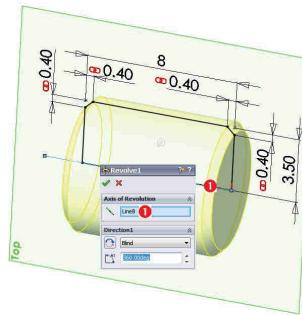

Fig. 2.47
Comanda **Sketch** – Fig. 2.47 – plan **Top**.
comanda **Revolved Boss/Base** ① - Fig. 2.47 - ② selectie axă de revoluție ① / **Blind** / ③  $360^\circ$  / ④ ✓.
The **Sketch** command – Fig. 2.47 – **Top** plane.
the **Revolved Boss/Base** ① command - Fig. 2.47 - ② select axis of revolution ①/ **Blind** / ③  $360^\circ$  / ④ ✓ .